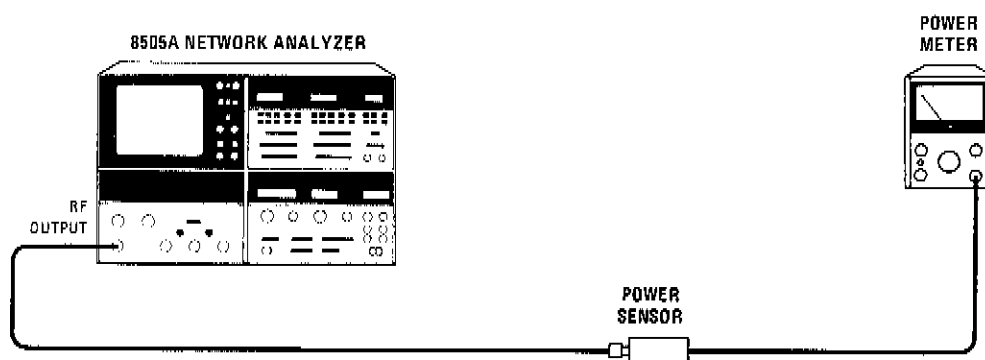

Figure A4-4. Output Leveling Test Setup
- b. Connect equipment as shown in Figure A4-4.